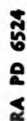

FIGURE 32.—Foot-firing mechanism assembly, M3 and M3E1 carriages.
(24) Cover (B162211).	(24) Screwed into housing (D42231).	(24) Unscrew.
(25) Cover (B162142).	(25) Seven screws (BCCX1AS) and washers (BEAX1H).	(25) Remove screws and washers.
(26) Wormwheel (B162217) and spacer (A149127).	(26) Splined to pinion (C54547) and locked with nut (BBHX2B), washer (A149152) and pin (BFAX2CD).	(26) Remove cotter pin, nut, and washer and drive pinion out of worm, spacer, and housing.
**39. Foot-firing mechanism, M3 carriage (fig. 32).**—*a. Foot-firing mechanism does not have sufficient travel to fire the gun.*—This is usually caused by a bent trigger bar. If it is necessary to change the gun, replacing it with a gun other than the one issued in the mount, it will be necessary to adjust the motion of the foot-firing mechanism to the trigger of the new gun. This adjustment can be made by backing off on nut (BBFX1E) on the vertical shaft of the foot-firing mechanism. After the linkage has been adjusted so the gun will fire, the foot-firing pedal must be checked to see that the pedal lock does not lock the pedal in firing position. If this should occur, it will be necessary to build up with welding metal the link of the foot-firing mechanism which bears against the trigger bar until a proper adjustment is possible.